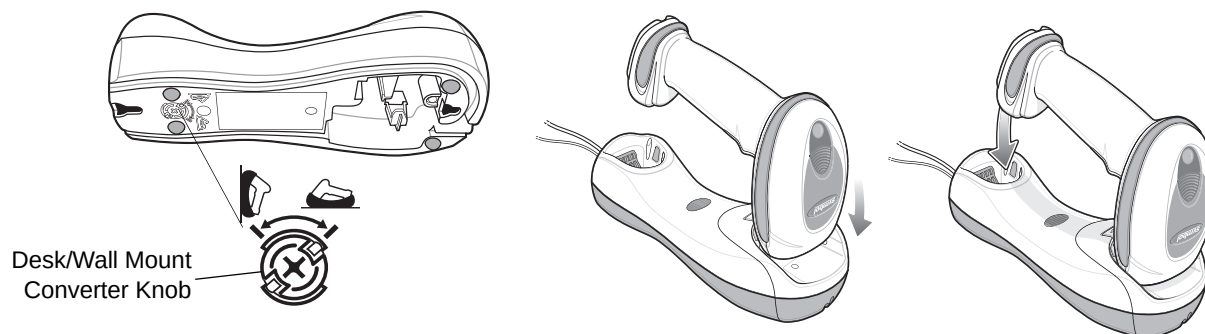

Figure 1-8 Horizontal Mount - Inserting the Scanner in the Cradle
2. Ensure the desk/wall mount converter knob is in the position shown in Figure 1-8.